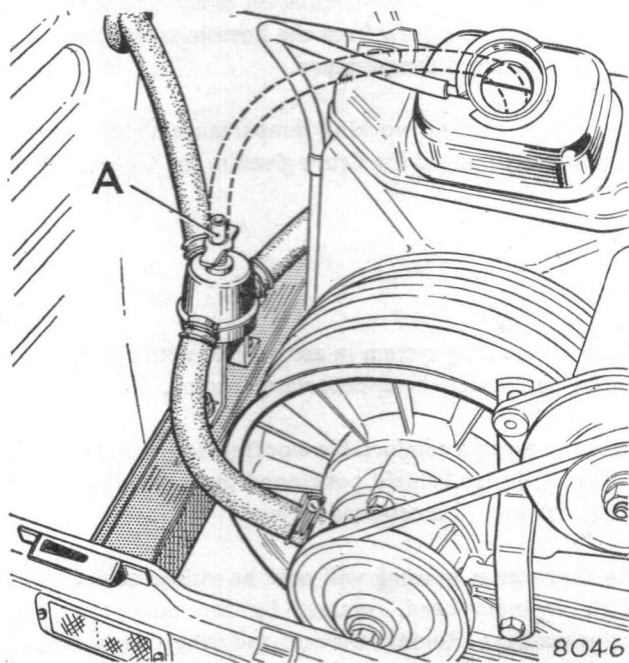

Fig. 1. By-pass junction and method of bleeding system.
The bleeding is carried out with the aid of a short length of transparent plastic tubing connected to the bleed valve (A) on the by-pass junction assembly as shown in Fig. 1. The bleed valve (if fitted) on the heater matrix is not for use and must be kept closed at all times.